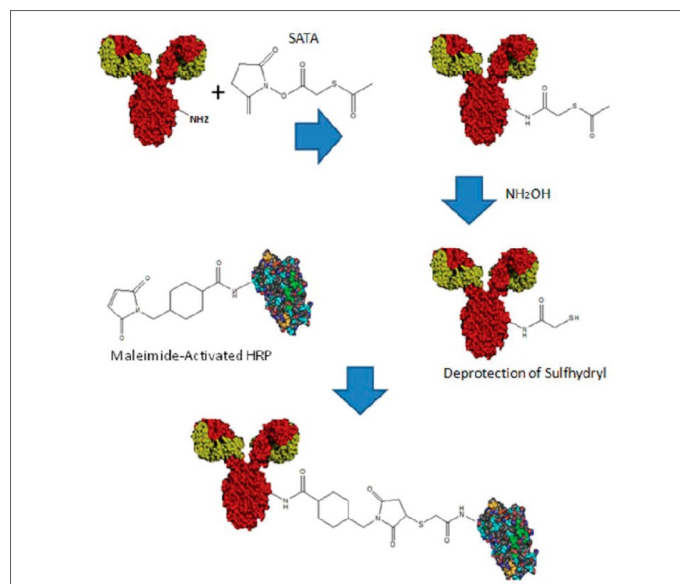

Figure 3 SATA activation of the antibody. Reaction of the thiolated antibody with a maleimide-activated enzyme results in thioether cross-links.
- SATA: this linker requires additional steps to deprotect the thiol using hydroxylamine; a harsh nucleophile that can affect binding affinity of the antibody (Figure 3).